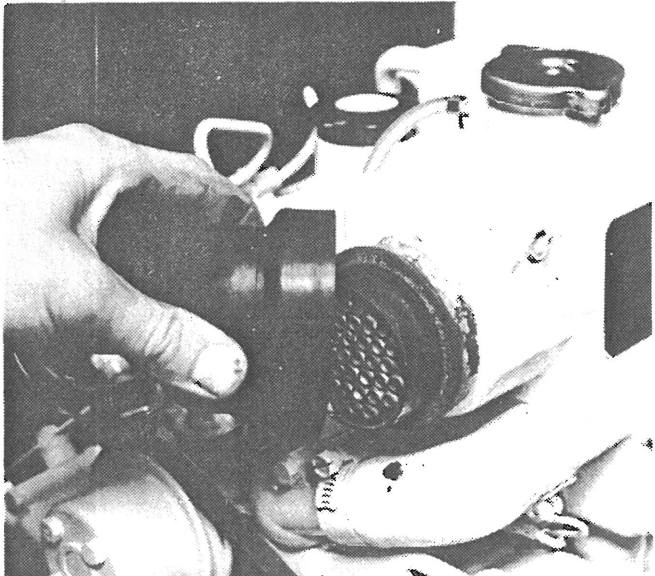

Figure 68 - Remove ends of heat exchanger (L-M753)
- b. Remove both rubber ends from heat exchanger housing (figures 68 and 69).